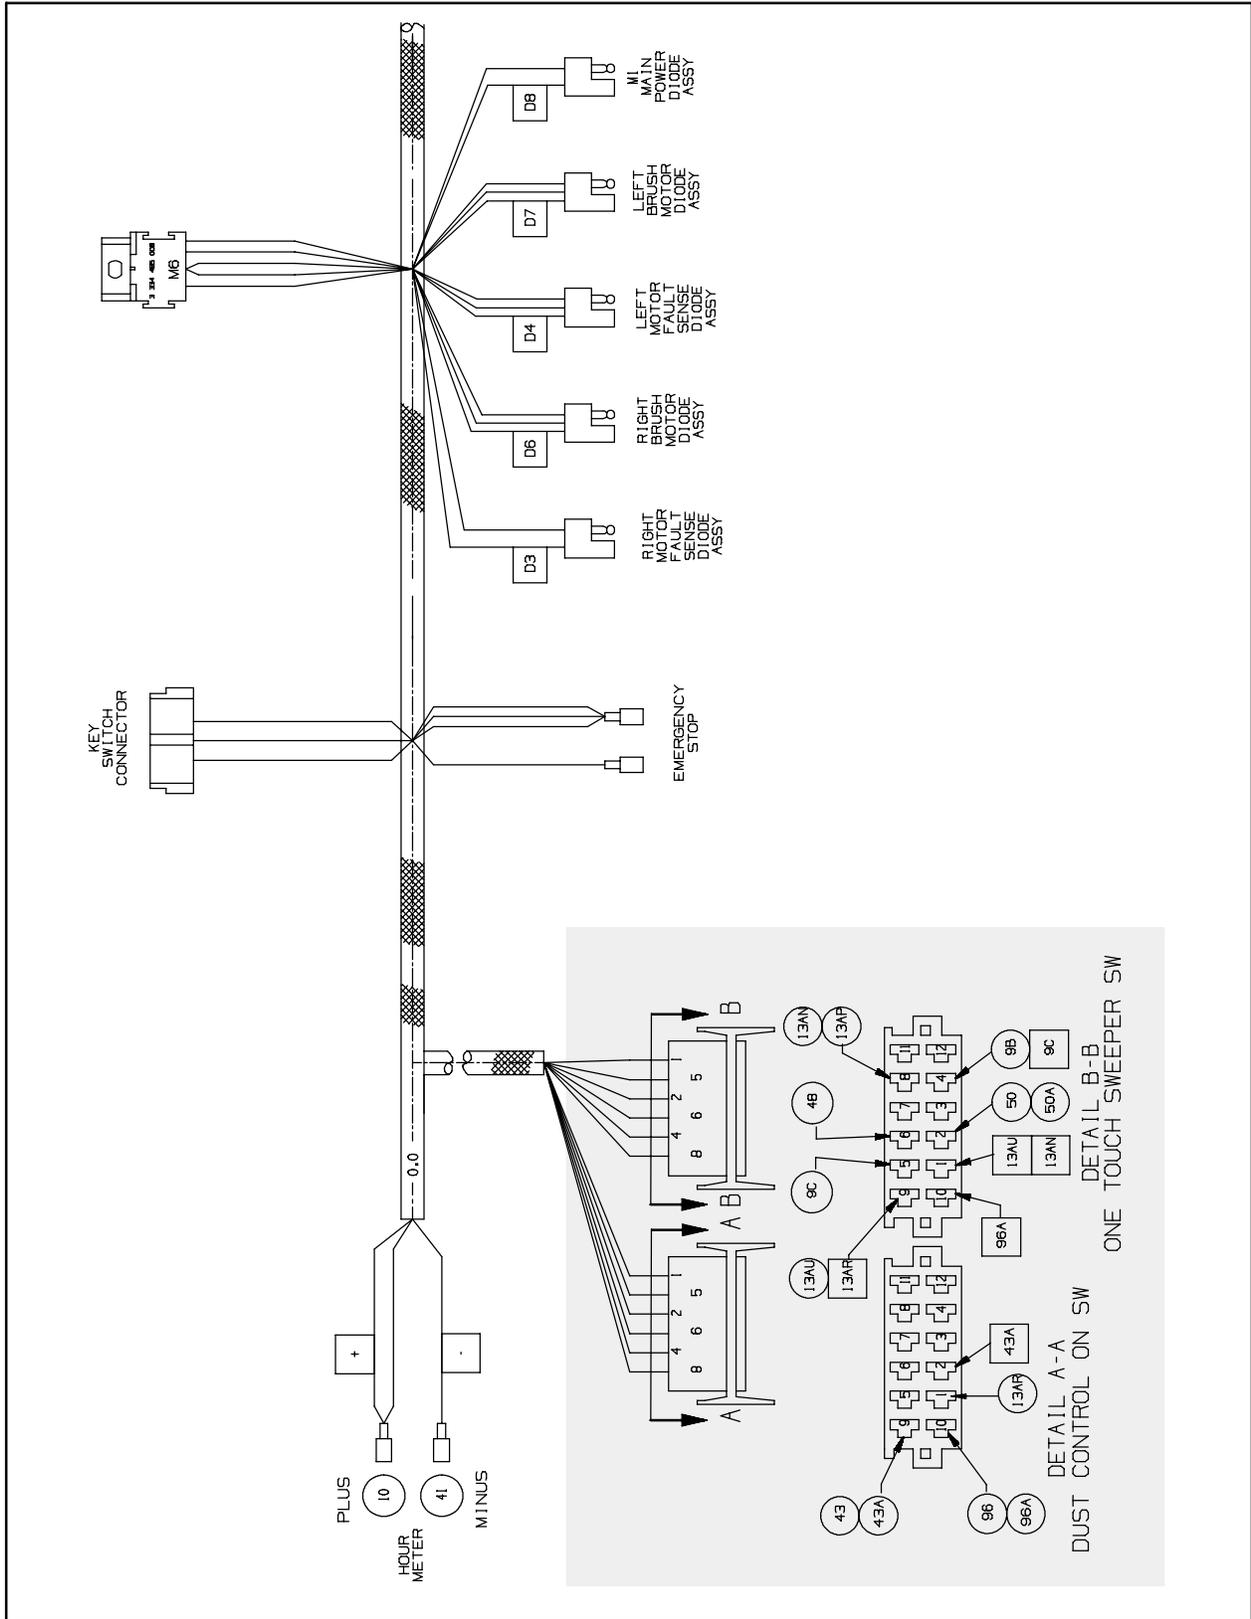

FIG. 14 - Main Wire Harness Diagram
10. Attach the main wire harness to the rocker switches (3). Refer to Fig. 14.